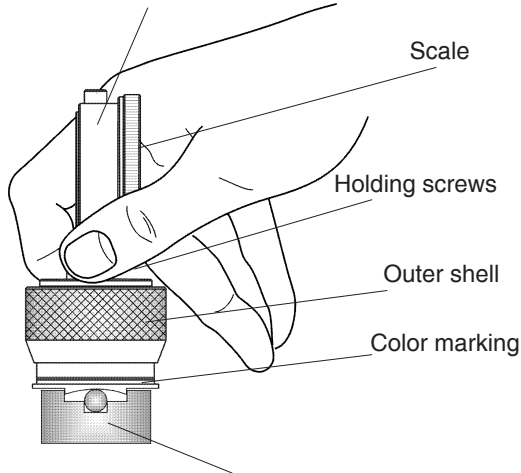

fig. 3.3.1 Zero Test Block Model HP-PT for textile durometer models with concave-shaped base
- Press the durometer down on the optional Zero Test Block (HP-PT) (fig. 3.3.1). Do not move the spring-loaded outer shell.